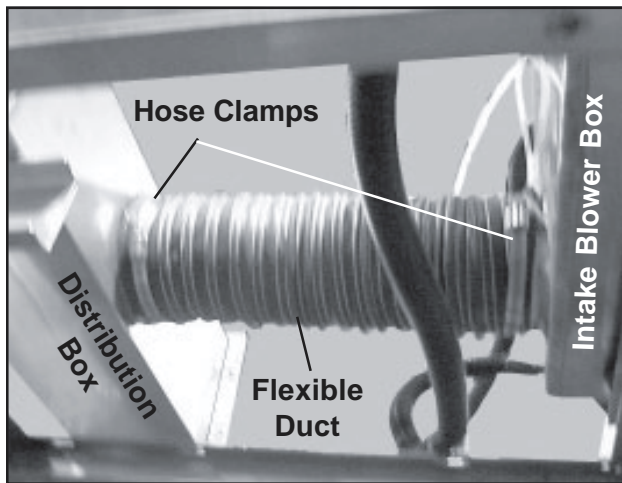

Figure 24. Intake Flexible Duct Mounted in Place
2. Fit one end of the flexible duct over the port on the rear of the intake blower box and secure it with one of the hose clamps (Figure 24). Tighten the hose clamp with a 5/16 in. hex nut driver.